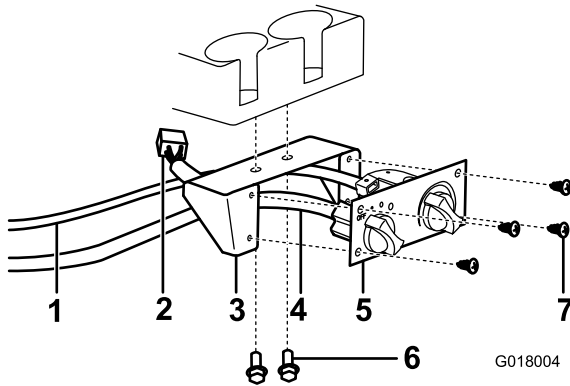

Figure 17
5. Attach the heater control mount to the dash under the cup holders with 2 flange head screws and nuts (Figure 17).
6. Connect the heater control cable and black wire harness connector to the heater control and the white wire harness connector to the heater (Figure 17).
7. Attach the heater control to the heater control mount using 4 sheet metal screws (Figure 17).